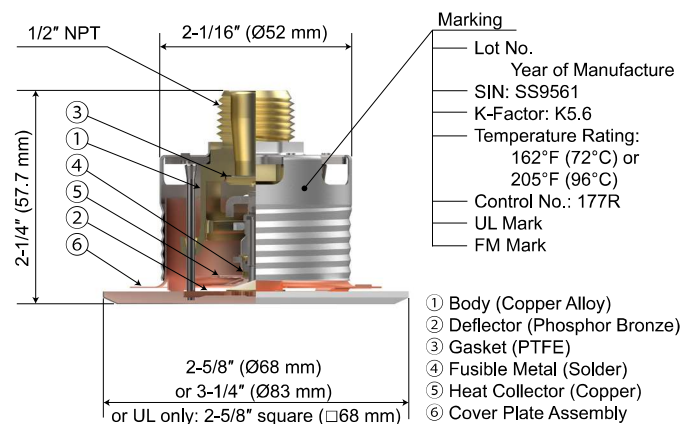

Figure 1: Model RC-QR, K = 5.6
- **Physical Characteristics:** Ref. Figures 1 and 1.1